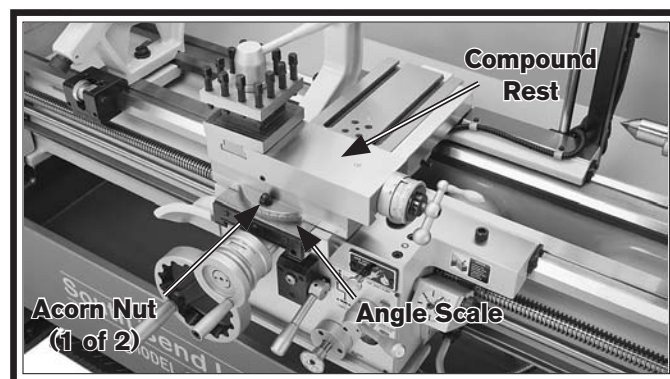

Figure 59. Compound rest.
1. Loosen the two acorn nuts at the base of the compound rest (1 of 2 shown in **Figure 59**).